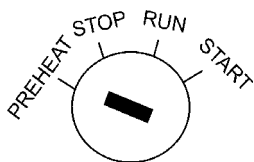

Figure 44. Ignition Switch (Pre-Heat)
7. When starting the generator in **COLD** weather conditions, turn the **ignition key** to the “PREHEAT” position (Figure 44).